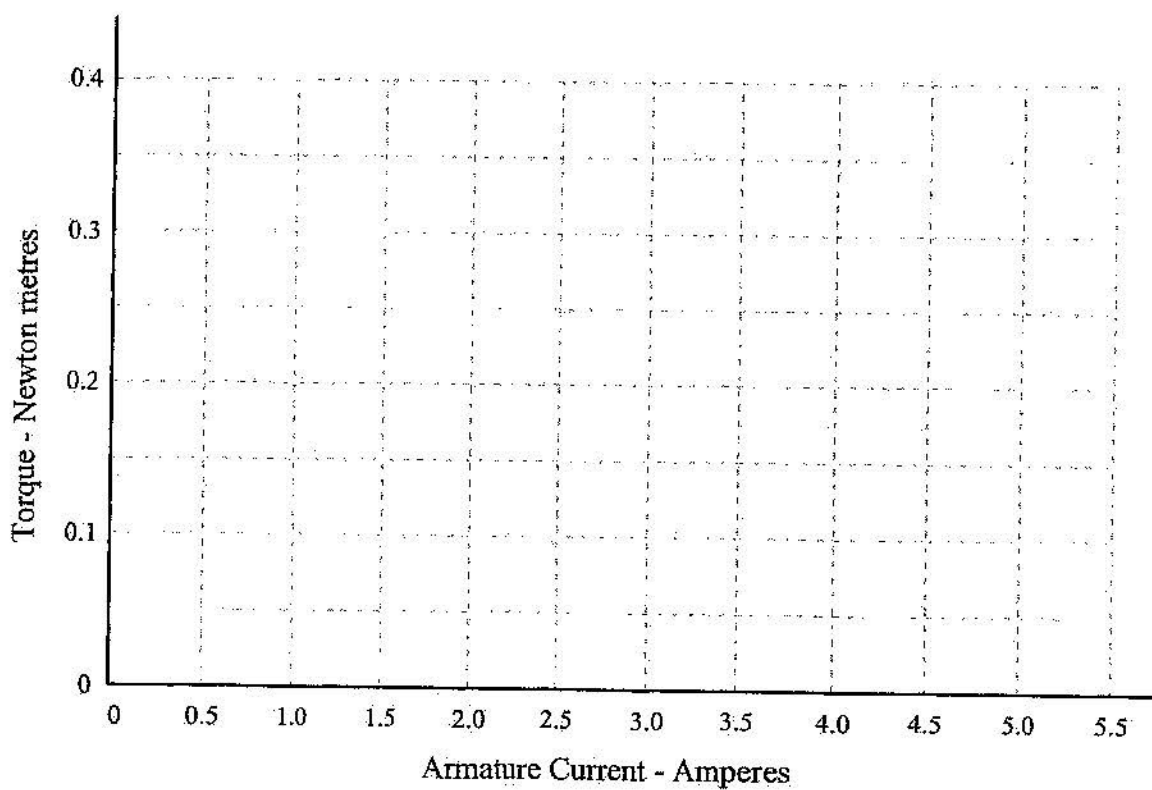

Figure 5
7. On the axes of figure 5, plot the torque-armature current characteristics for the three motors.